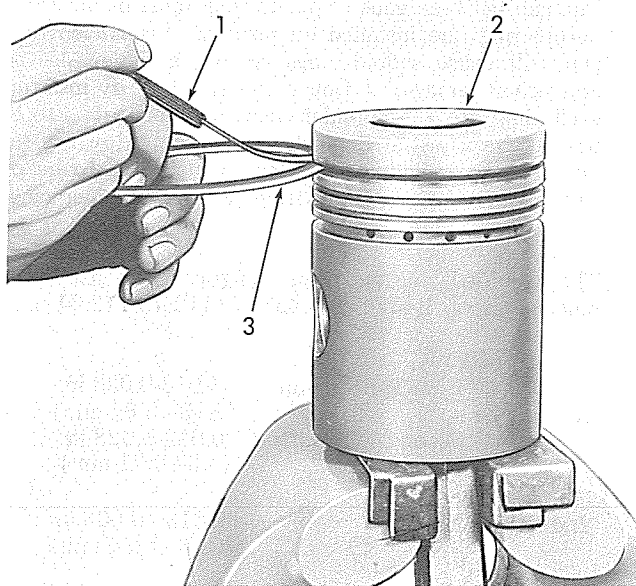

Fig. 4 — Checking Piston Ring-To-Groove Clearance
2. Measure ring-to-groove clearance (top of ring to top of groove in piston) as shown in Fig. 4. The specified ring-to-groove clearances, using a new piston and new rings are as follows: